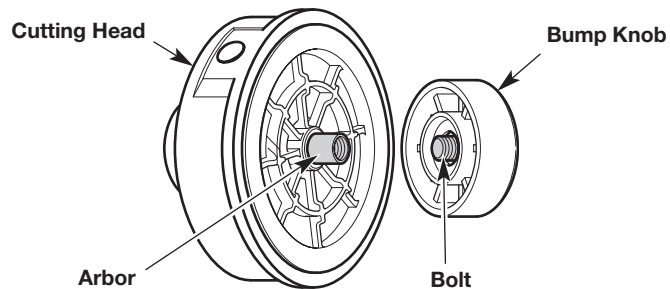
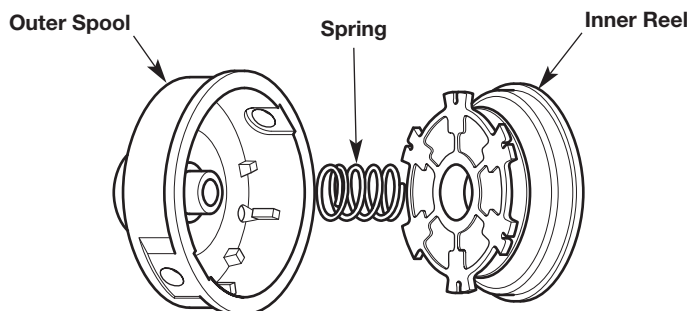

Fig. 17
Fig. 18
- Hold the cutting head in place (Fig. 17).
- TB22:** Turn the bump knob counterclockwise to unscrew it from the cutting head (Fig. 17). The outer spool (Fig. 18) will remain attached to the unit.
- TB252S:** Turn the bump knob clockwise to unscrew it from the cutting head (Fig. 17). Slide the cutting head off of the arbor (Fig. 17).
- Inspect the bolt inside the bump knob to make sure it moves freely (Fig. 17). Replace the bump knob if it is damaged.
- Remove the inner reel from the outer spool (Fig. 18).
- Remove the spring from the inner reel (Fig. 18).
5. **TB252S:** While holding the inner reel and outer spool together, slide the cutting head onto the arbor (Fig. 17). Make sure that the cutting head fits securely onto the hexagonal portion of the arbor.
- **TB22:** Screw the bump knob on clockwise (Fig. 17).
- **TB252S:** Screw the bump knob on counterclockwise (Fig. 17). Tighten the bump knob securely.